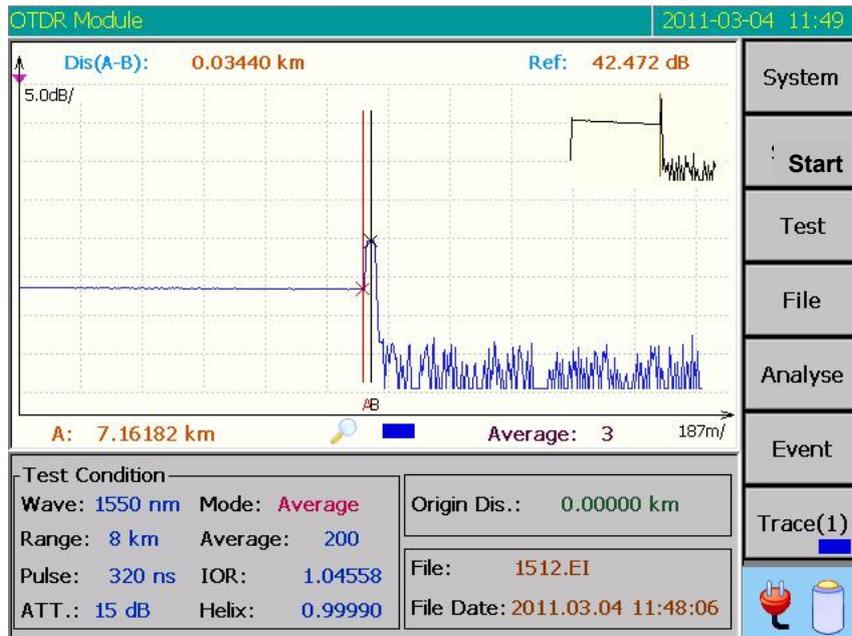

Figure 8-34 Reflection loss test
- Locate the mark point B at the top of the reflection event point, as shown in Figure 8-34.